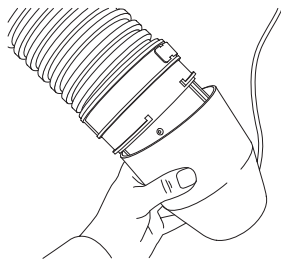

Fig. 21
9. The cone has two internal lugs that engage on the boiler adaptor in a bayonet action (Figs. 21 & 22).